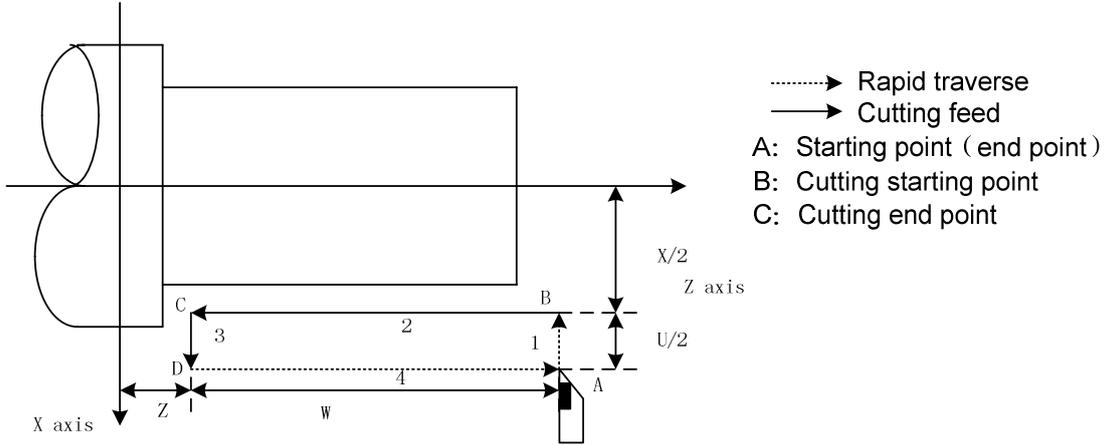

Fig. 3-17
- R: different value (radius value) of X absolute coordinates between end point and start point of cutting. When the signs of R is not the same that of U, $R \leq |U/2|$; when R=0 or the input is default, the cylinder cutting is executed as Fig.3-17, otherwise, the cone cutting is executed as Fig. 3-18; unit: mm.